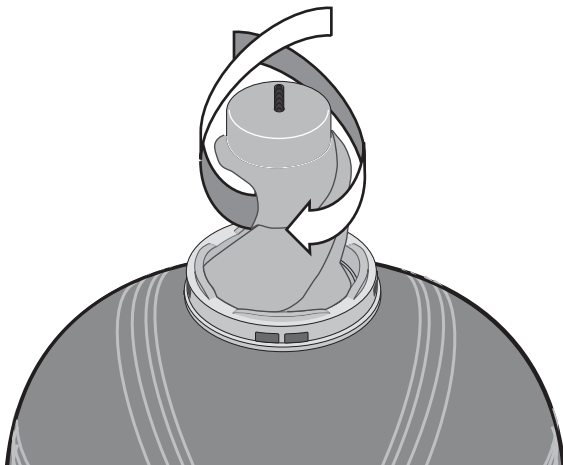

Figure 6: Turn and Push Air Cell Down Through Top Tank Port. Expel Any Remaining Air From Air Cell As You Go
8. Push and turn tightly rolled air cell into tank (see Figure 6).